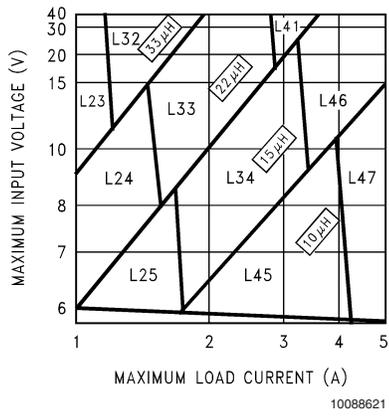
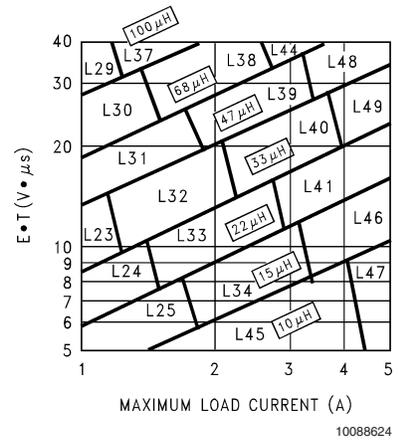

FIGURE 3. LM2678-3.3
FIGURE 6. LM2678-ADJ
Step 3: Determine the inductor required by using one of the four nomographs, *Figure 3* through *Figure 6*. Table 1 provides a specific manufacturer and part number for the inductor.
Step 5: Determine an input capacitor from Table 4 for fixed output voltage applications. Use Table 2 to find the specific capacitor type. For adjustable output circuits select a capacitor from Table 2 with a sufficient working voltage (WV) rating greater than $V_{in\ max}$, and an rms current rating greater than one-half the maximum load current (2 or more capacitors in parallel may be required).
Step 3: Use the nomograph for the 3.3V device, *Figure 3*. The intersection of the 16V horizontal line ($V_{in\ max}$) and the 4A vertical line ($I_{load\ max}$) indicates that L46, a 15 μ H inductor, is required.
Step 3: To use the nomograph for the adjustable device, *Figure 6*, requires a calculation of the inductor Volt \cdot microsecond constant ($E \cdot T$ expressed in $V \cdot \mu s$) from the following formula:
Using *Figure 6*, the intersection of 27V•μS horizontally and the 3.5A vertical line ($I_{\text{load max}}$) indicates that L48, a 47μH inductor, or L49, a 33μH inductor could be used. Either inductor will be suitable, but for this example selecting the larger inductance will result in lower ripple current.
Important Note: When using the adjustable device in low voltage applications (less than 3V output), if the nomograph, *Figure 6*, selects an inductance of 22μH or less, Table 6 does not provide an output capacitor solution. With these conditions the number of output capacitors required for stable operation becomes impractical. It is recommended to use either a 33μH or 47μH inductor and the output capacitors from Table 6.